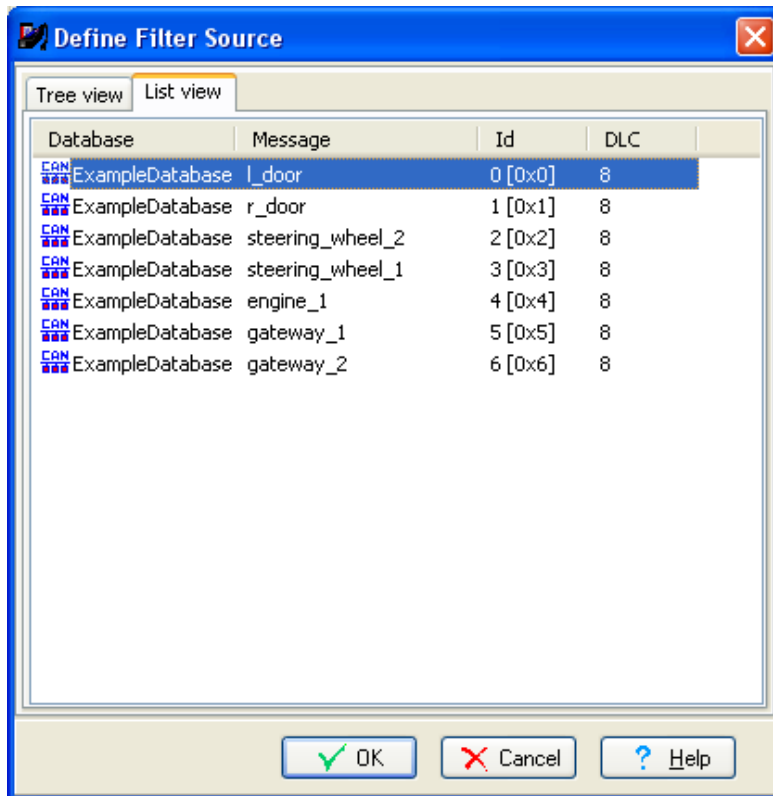

Figure 17. Choose message.
- Click at the *l_door* message and click at the *OK* button. See Figure 17.